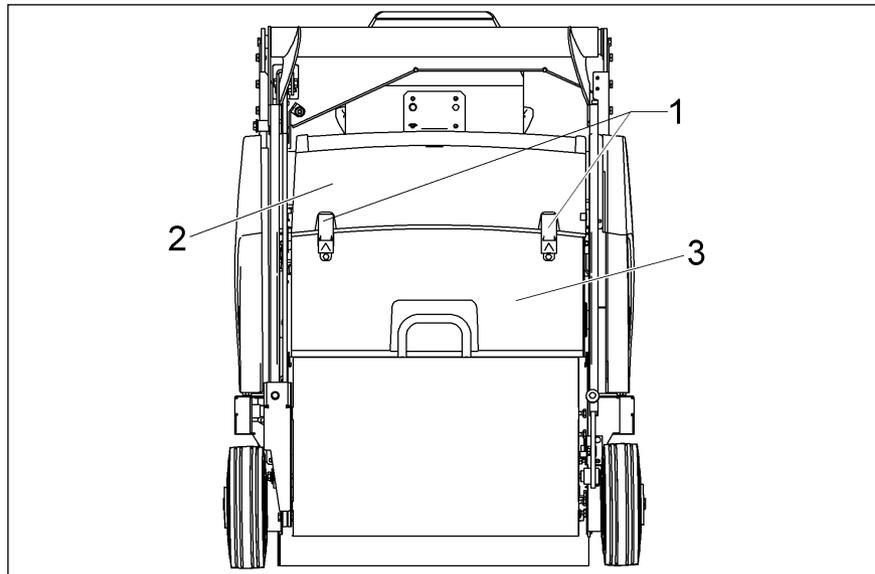

Fig.20
- Open quick-release locks (Fig. 20/1)
- Remove cover, filter case (Fig. 20/2)
- Loosen quick-release locks (Fig. 20/1).
- Remove cover, filter case (Fig. 20/2).